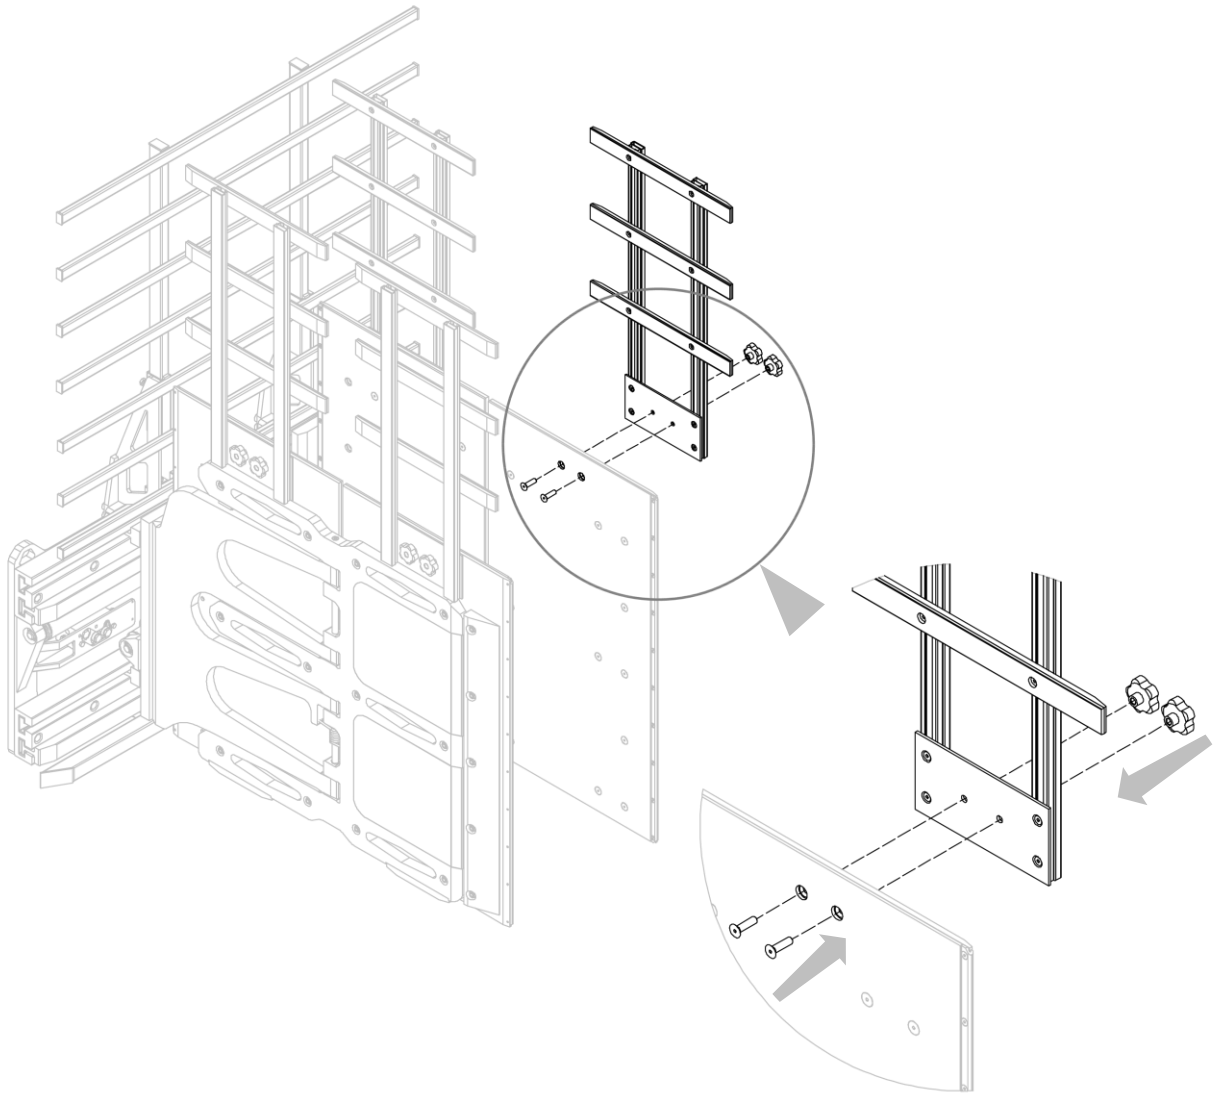

Figure 42
5. Install the side load-retaining frames onto the panels, using the screws and fastening knobs provided (see *Figure 42*).